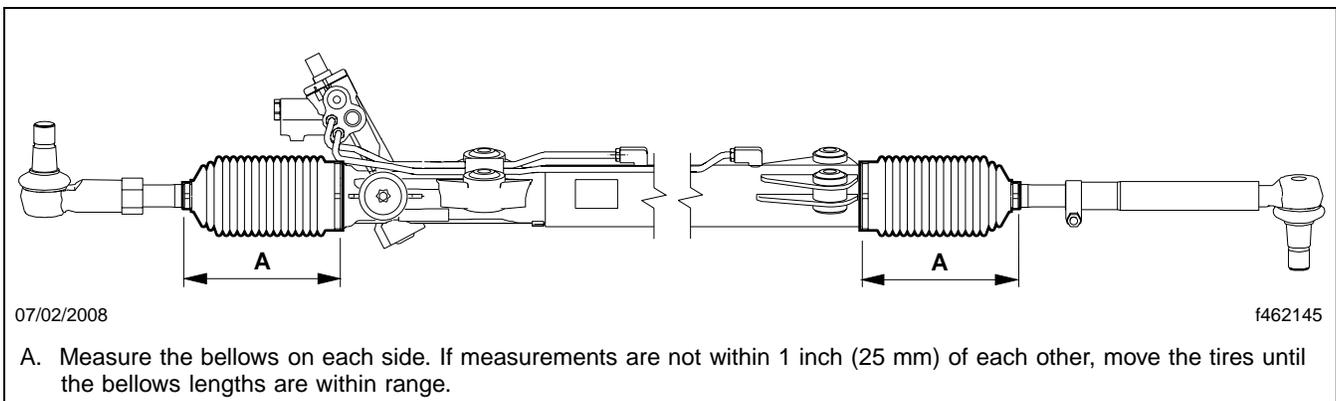

Fig. 12, Measuring the Tie Rod Bellows
- 45.1 Measure the length of the bellows from clamp to clamp on each side of the gear. See **Fig. 12**. If measurements are not within 1 inch (25 mm) of each other, move the tires until the bellows lengths are within range.